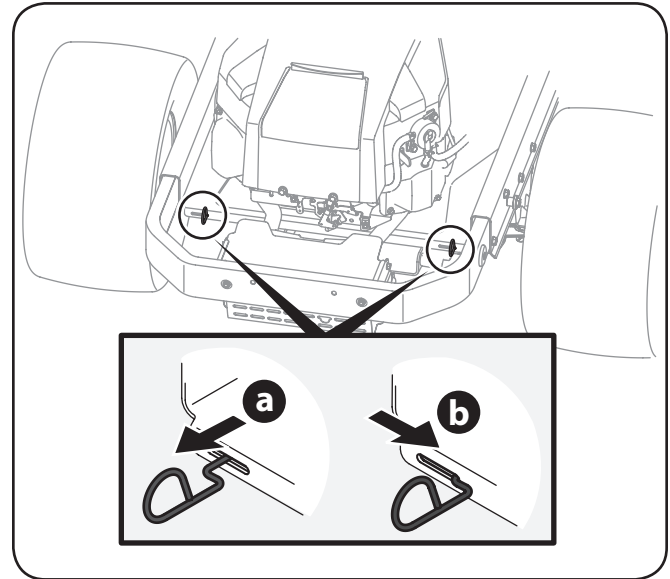

Figure 6-2
1. From the rear of the tractor, just inside the two rear tires, locate the transmission bypass rods. Refer to Figure 6-2.
2. Engage the transmission bypass rods, one on each side of the tractor, to move the tractor manually without starting it. The transmission bypass rods are located on the rear of the tractor, just inside each rear wheel. Engage the bypass rods by pulling each one out (a) and to the right (b) to lock it into place. See Figure 6-2.
3. Disengage the bypass rods by reversing steps a & b after moving the tractor. See Figure 6-2.